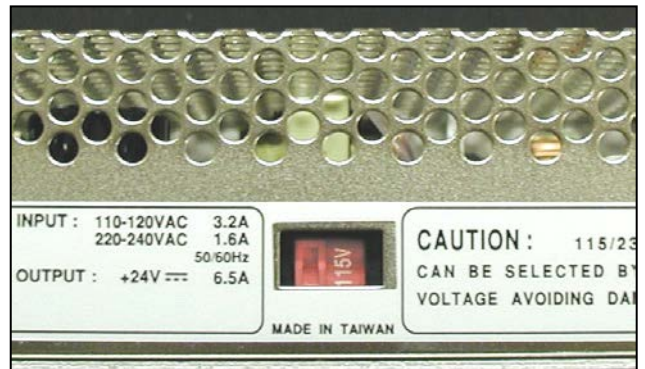

Figure 3-35. Voltage Selector Switch
6. With new power supply, check that the Voltage Selector Switch is set to 115 VAC (Figure 3-35).